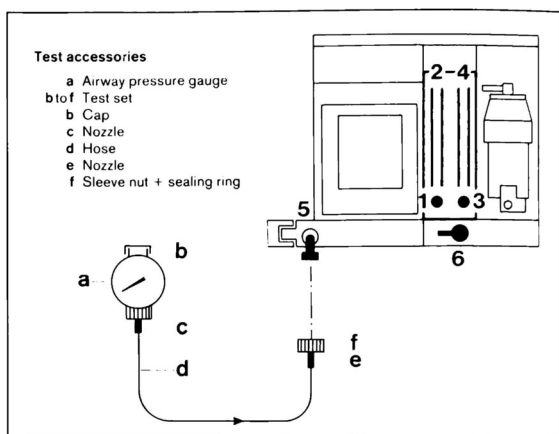

Fig. 15 Sulla 808 V
Accessories required (see Fig. 15):
- Assemble parts **a–f** according to Fig. 15.
When the O₂-flush lever **6** (Fig. 15) is actuated, a steady flow of gas from the Y-piece of the circle system must be perceptible. Do not seal Y-piece. When released, lever must return to its initial position.